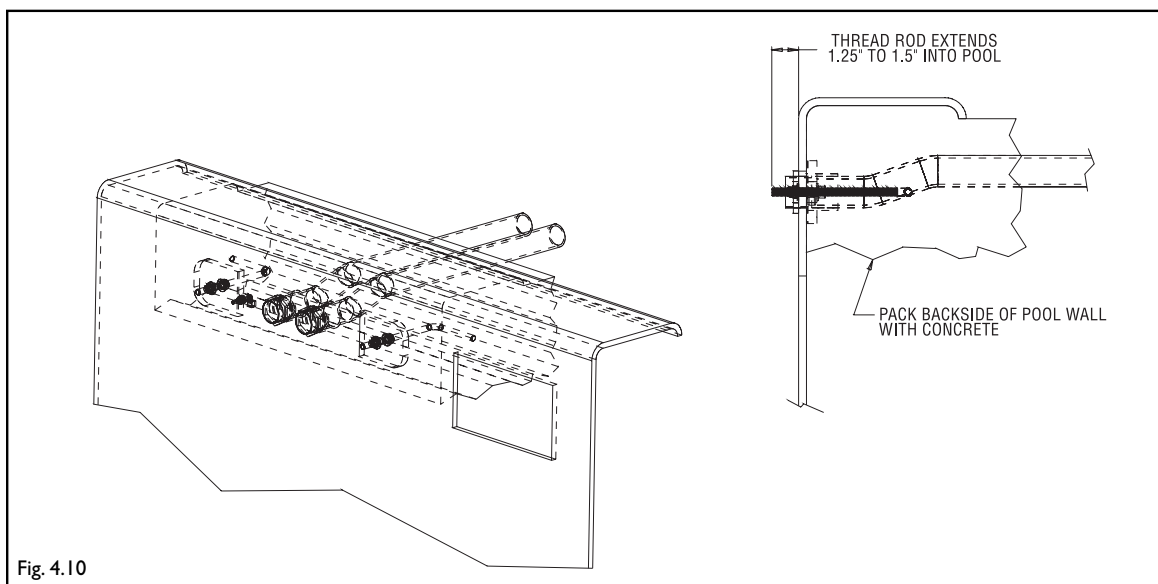

Fig. 4.10
- Thread the 3/8" threaded rod into the holes in the cut off end pieces, so that once permanently installed, 1-1/4" to 1-1/2" of threaded rod will penetrate beyond the pool wall surface. Refer to Figure 4.10. To help prevent cross threading, thoroughly clean the exposed end of the threaded rods of any excess fiberglass before threading nuts onto the threaded rods.
- Thread the 3/8" threaded rod into the holes in the bracket, so that once the PVC bracket plate is permanently installed, 1-1/4" to 1-1/2" of threaded rod will penetrate beyond the pool wall surface. Refer to Figure 4.10. To help prevent cross threading, thoroughly clean the exposed thread of any excess fiberglass before threading nuts onto the threaded rods.
Pour the concrete collar around the top flange of the pool, securely encasing the threaded rod assemblies and conduit (with possible adapters) in place. Even if a bond beam is not being poured for the pool, it is essential for the operation of the Fastlane that this assembly be securely anchored in concrete. Refer to Figure 4.10. Only when the concrete has cured is it okay to remove the washers and jam nuts and install the Fastlane. **Note: Do not throw away these washers and nuts, because they will again be used to anchor the Fastlane to the pool wall.**